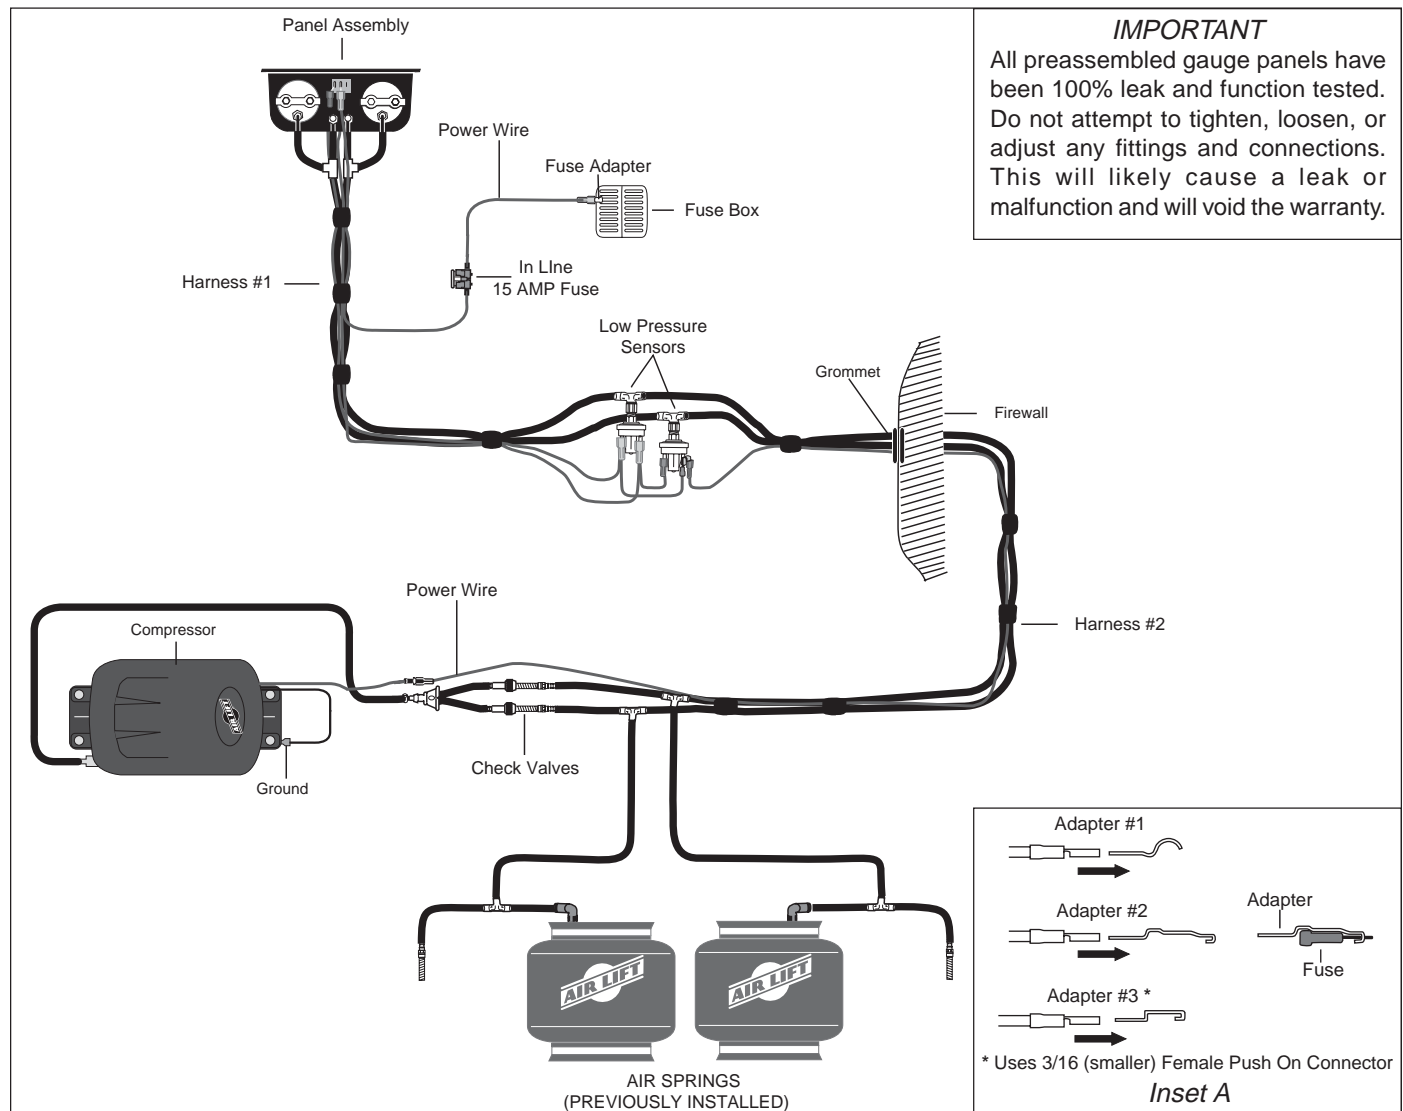
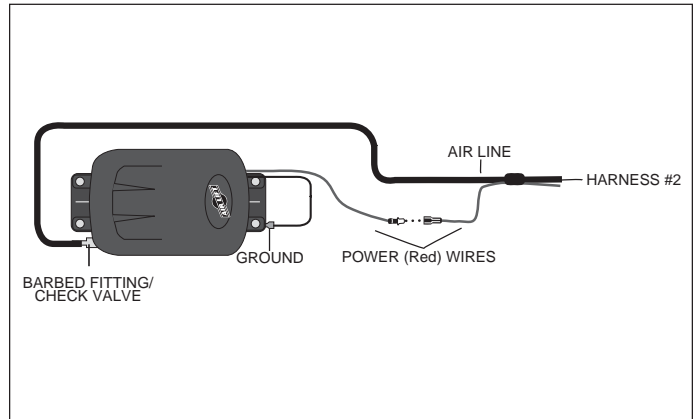

Figure 1
Figure 5
2. Now install the compressor unit. Hold the compressor in the recommended location and use the provided silver self tapping screws to attach the mounting brackets to the vehicle. In some cases the mounting area does not provide enough room to use a drill to drive the screws in. It may be necessary to use the mounting brackets as a template to drill $\frac{13}{64}$ " holes through the frame first and then use a $\frac{7}{16}$ " nut driver to install the self tapping screws. *NOTE: Attach the ground wire to one of the screws (Figure 1).*
Connect the check valves and power wire on Harness #2 to the "Y" assembly as shown in Figure 5. *Do not overtighten the check valve connector. Hand tight is sufficient.*
6. The next connection is between each air spring and the air line "T" fitting located just ahead of the check valves in Harness #2 (Figure 1 & 5). With the air springs deflated, use a hose cutter or razor blade to cut the air line already installed between the air springs and the inflation valves. Install the provided "T" fittings (Figure 1) by pushing the air line into each leg of the "T" until you feel a definite "click". Each line should go in $\frac{9}{16}$ ". Connect a single length of air line to the open leg of each "T". Bring each of the lines to the "T" fittings in Harness #2 just in front of the check valves and connect as shown in Figure 5. Route the air line across the chassis from the far side over the exhaust system heat shields and along the frame up to the compressor. Avoid heat sources, sharp edges, and tight bends.
8. GAUGE LIGHT: Attach a 1/4" female connector to both the red and black wires. Plug the wires into the 1/4" male terminals on the back of the gauge light. Route the red wire for the illuminated gauge to harness number one's fused wire or to a dash light wire circuit and attach with the quick splice provided. Ground the black wire to an adequate ground. Use the additional wire and connectors supplied if longer leads are needed (Figure 1).